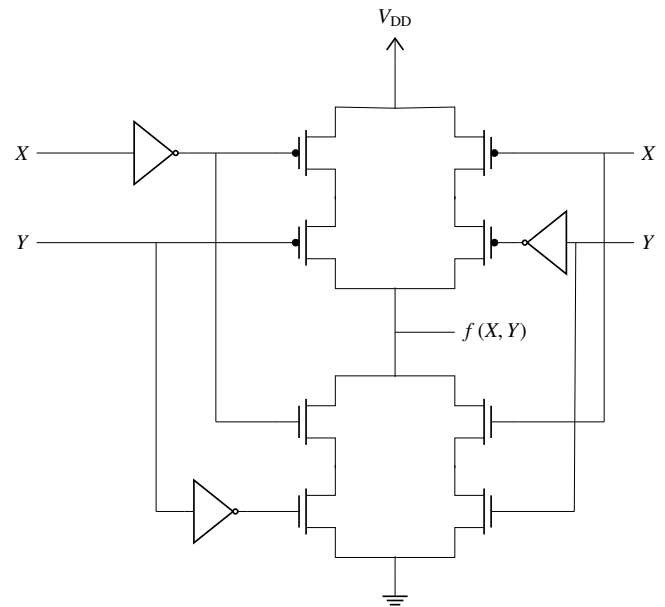

Fig. 3.39
57. The logic function  $f(X, Y)$  realised by the given circuit in Fig. 3.39 is